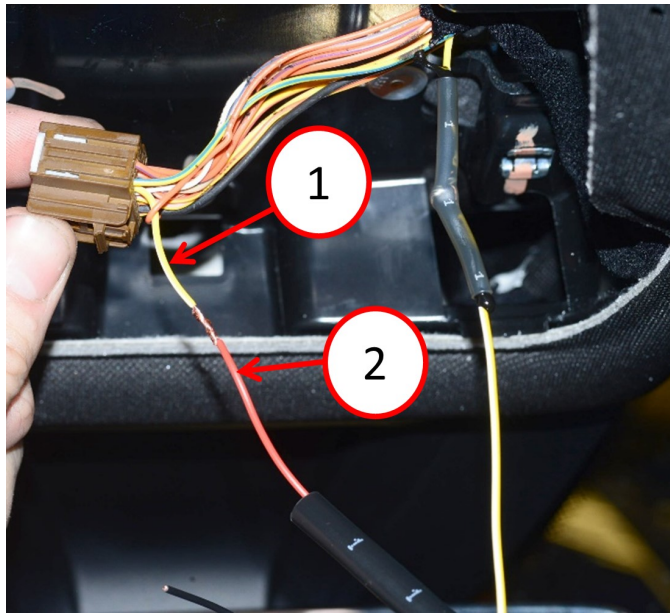

Fig. 5
10. Position heat shrink onto the red jumper harness wire and connect the red wire to the cut dome lamp yellow/white wire connector side (pin 6) Fig. 5. **Do not heat the heat shrink tubing.**
11. Solder the red jumper harness wire to the yellow/white dome lamp connector wire (pin 6) Fig. 5.